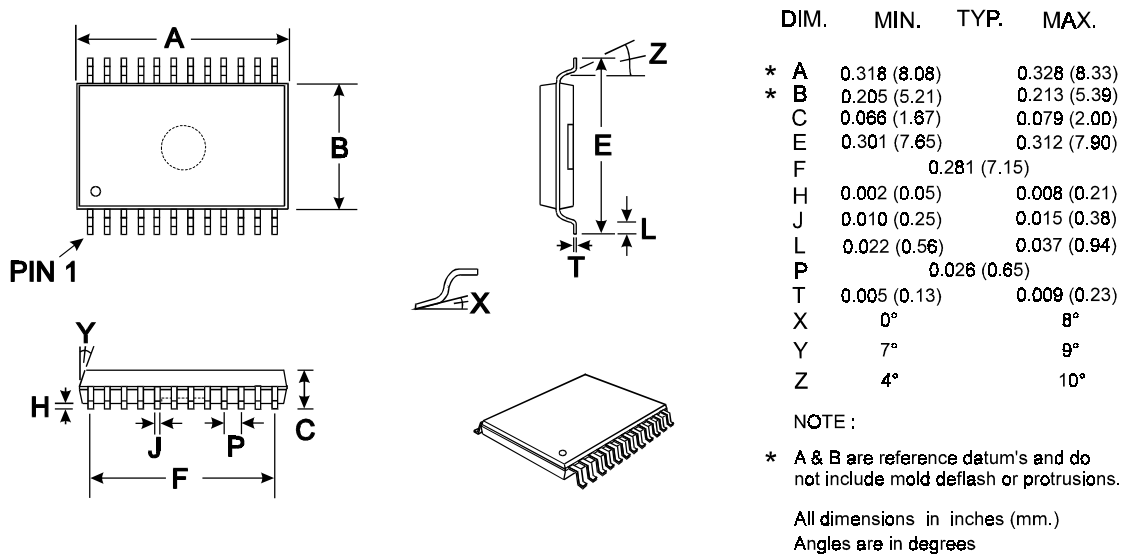

Figure 12 24-pin SSOP (D5) Mechanical Outline: Order as part no. CMX625D5
8. See filter response, Figure 12.